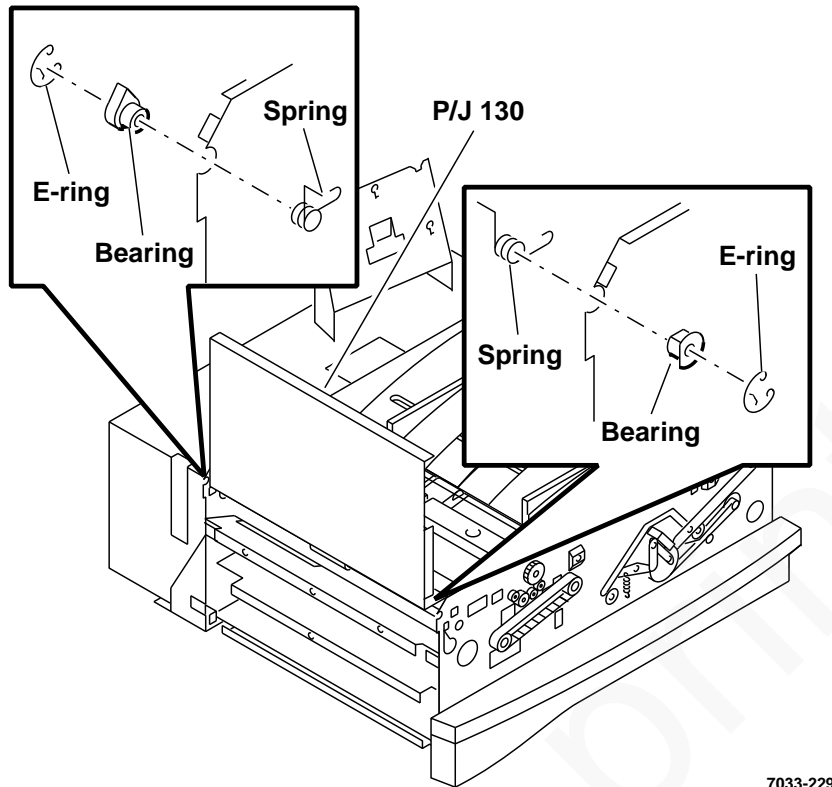

Figure 4. Upper scanner removal
- c. Remove E-rings from front and rear ends of upper scanner assembly shaft (Figure 4).